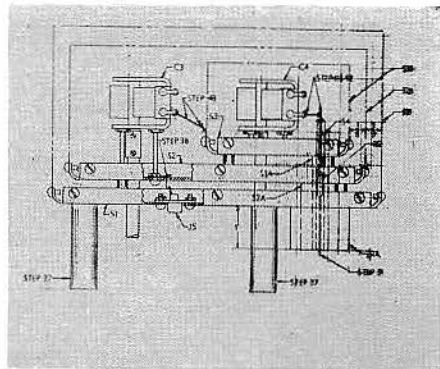

Fig. 4—Reactance Assembly—Inboard view
37. Attach four type I3 insulators to shield platform S1, using the  $\frac{1}{4}$ -inch-spaced holes in S1 and 6-32 screws. Attach S1A to S1, using 6-32 screws from the inside of S1. Attach the female phono socket to S1 in the 7/16-inch diameter hole. Attach four type I1 insulators, using  $\frac{1}{4}$ -inch-long 6-32 screws. Do not tighten the screw in the hole marked "Hole A" in Fig. C1; this screw will hold a cable clamp later. See Fig. 4 for details of insulator placement.
38. Attach four type I1 insulators to shield platform S2, using the  $\frac{2}{8}$ -inch-spaced holes in S2 and  $\frac{1}{4}$ -inch-long 6-32 screws. Attach S2A to S2. Attach capacitor C3 with 1- $\frac{1}{4}$ -inch-long 6-32 screws, using two nuts on each screw as shown in Fig. 4. Mount a soldering lug under one nut as shown. Align the capacitor by adjustment of the mounting screws and nuts.
41. Connect two of the stator lugs of C4 with No. 18 tinned wire as shown in Fig. 4. Slide shield assembly S4 into S3A. Center assembly S4 in S3A, using a piece of  $\frac{1}{4}$ -inch-long insulating tubing. Make certain that opposite ends of S4 and S3A are even as shown in Fig. 4, and cement tubing in place with Duco. Solder the shorted end of resistor R2 (which is in S4) to the wire connecting stator lugs of C4.
43. Place a  $\frac{1}{4}$ -inch-long 6-32 screw in the flange of S3 as shown in Fig. 4, with a soldering lug. Connect this lug to the stator lug of C3 with No. 18 tinned wire. Using  $\frac{1}{4}$ -inch-long 6-32 screws, mount a soldering lug in Hole B (see Fig. C1) of S1 and another in S2 as shown in Fig. C2. These lugs are mounted in a direction opposite to that of the platform flanges.